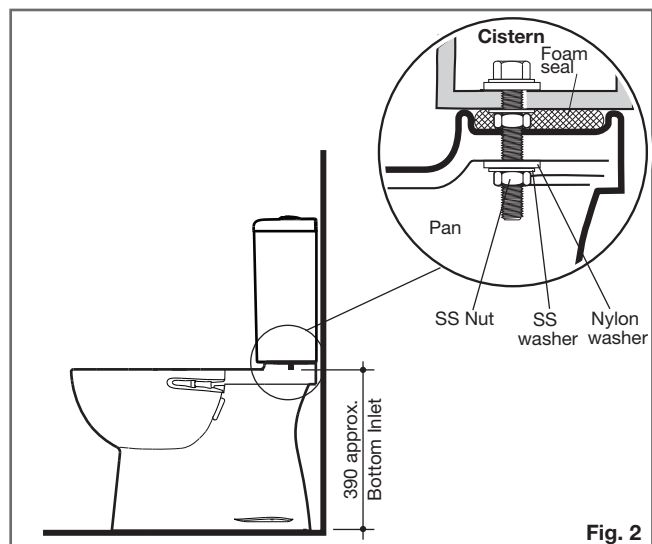

Fig. 2
- 1- Ensure the pre-fixed foam seal at base of cistern is securely attached to cistern base, as detailed in **Fig. 2**.
- 2- Locate cistern fixing bolts into pan fixing holes and secure cistern to pan with nylon washer, SS washer and SS nut, as detailed in **Fig. 2**.